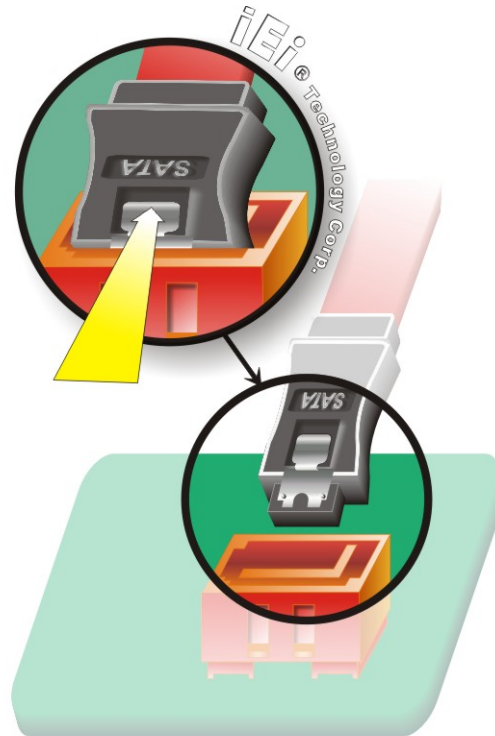

Figure 5-12: SATA Drive Cable Connection
Step 4: Insert the cable connector. Press the clip on the connector at the end of the SATA cable and insert the cable connector into the onboard SATA drive connector. See **Figure 5-12**.